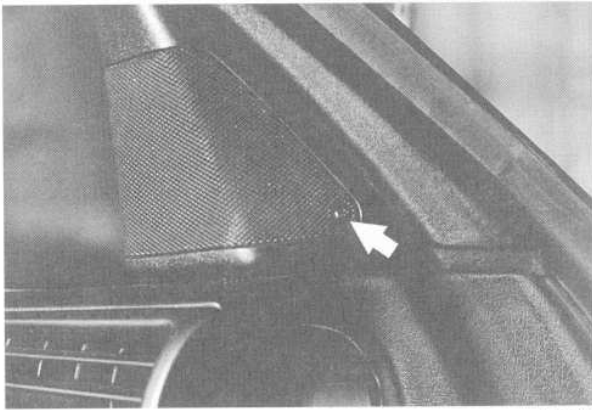

Fig. 5. Door loudspeaker mounting screw (arrow). Pry off plastic cover to access screw.
1. Pry out small plastic cap in lower front corner of speaker and remove mounting screw. See Fig. 5.